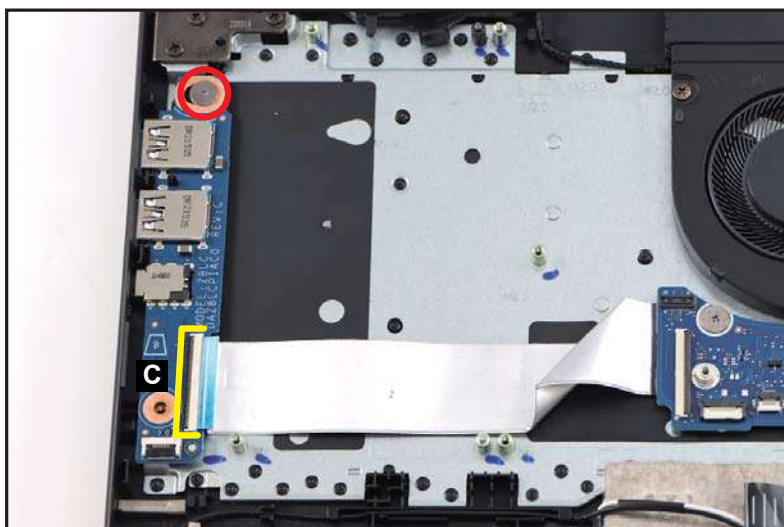

Figure 3-90. Replacing the IO Board
2. Install and secure one (1) screw to the IO board (Figure 3-90).
3. Connect the DB FFC to the IO board connector (C) (Figure 3-90).